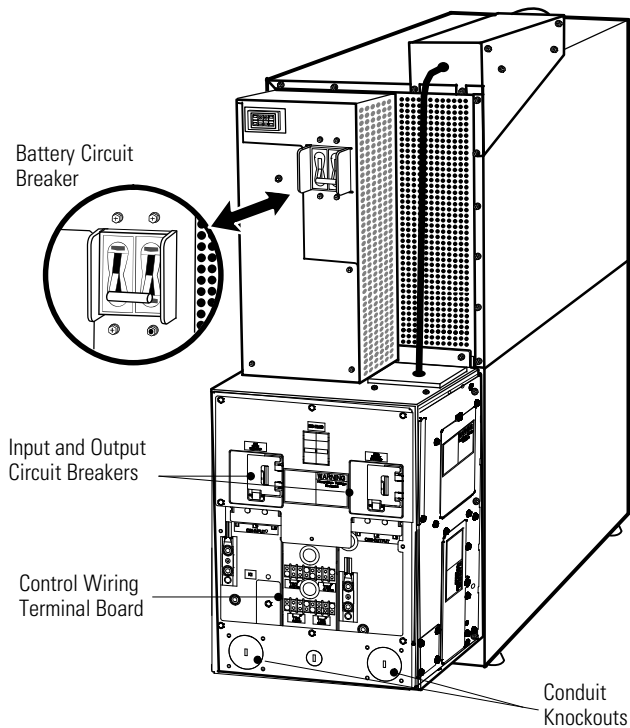

Figure 9. UPS Rear View
6. Verify that the UPS battery circuit breaker is in the OFF position (see Figure 9).
7. Verify that the input and output circuit breakers are in the OFF position (see Figure 9).
10. Remove the UPS wiring access cover and retain (see Figure 9).